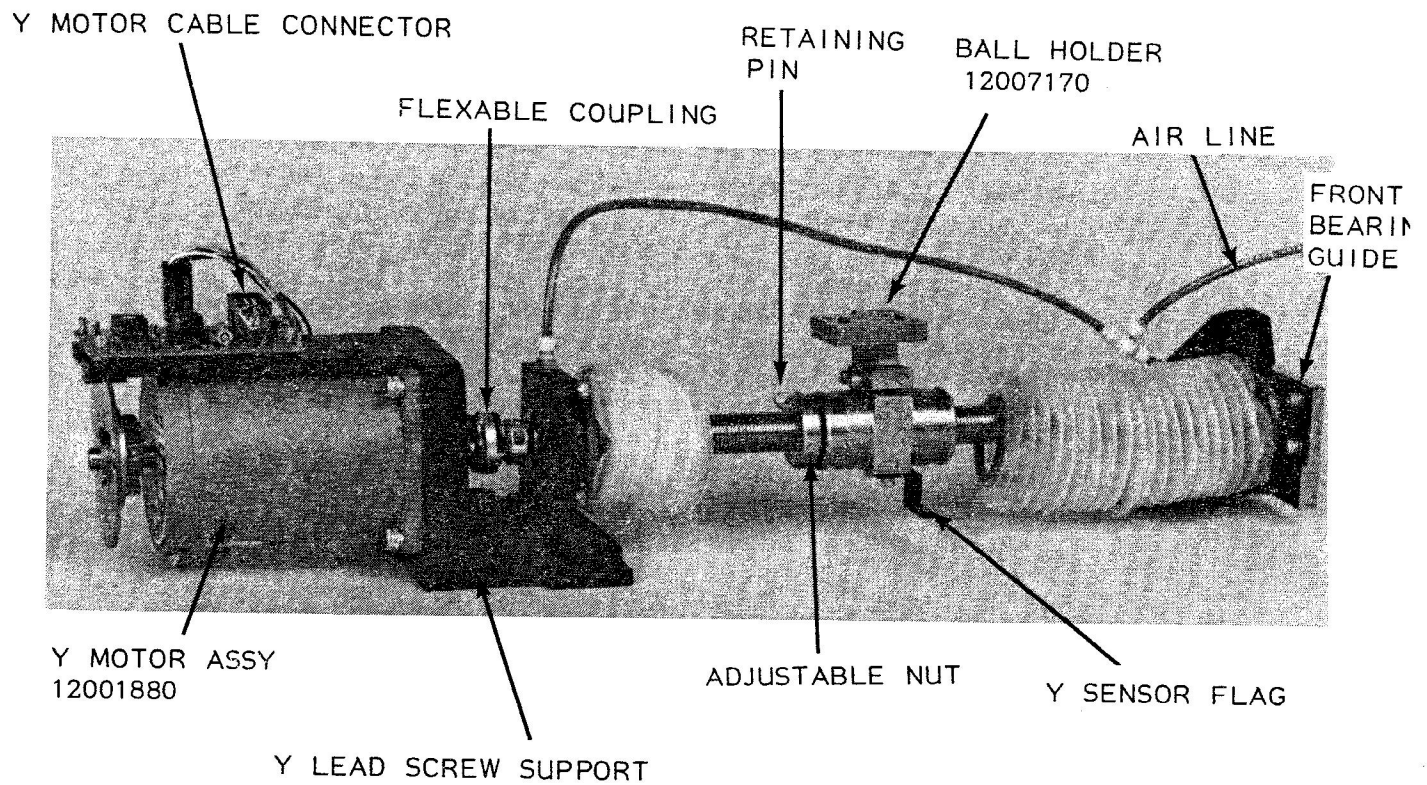

FIGURE 2-19
B. "Y" Lead Screw Assembly Description (Bellows Type) See Fig. 2-19
1. Repeatability Adjustment --- When testing shows the "Y" stage fails to repeat when approaching from opposite directions, perform the following steps: (Refer to Figure 2-19)
2-36 "Y" STAGE PARTS REPLACEMENT (Ref. Fig. 2-19, Page 81)